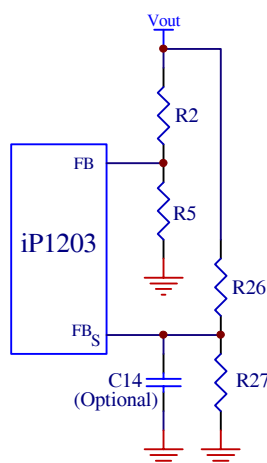

Fig. 14: Typical Scheme for Output Voltage Setting
The output of the iP1203 will shut down if it experiences a voltage in the range of 115% of V_{OUT} . The overvoltage sense pin FB_S is connected to the output through voltage dividers, R26 and R27 (Fig. 14), and the trip setpoint is programmed according to equation (1). A separate overvoltage sense pin FB_S is provided to protect the power supply output if for some reason the main feedback loop is lost (for instance, loss of feedback resistors). An optional 100pF capacitor (C14) is used for delay and filtering.
When selecting output capacitors, it is important to consider the overshoot performance of the power supply. If the amount of capacitance is not adequate, then, when unloading the output, the magnitude of the overshoot due to stored inductor energy, and depending on the speed of the response of the control loop, can exceed the overvoltage trip threshold of the iP1203PbF and can cause undesirable shutdown of the output. The magnitude of the overshoot should be kept below $1.125V_{OUT}$. To prevent the overshoot from tripping the output a delay can be added by installing capacitor C14 as shown in Fig.14.